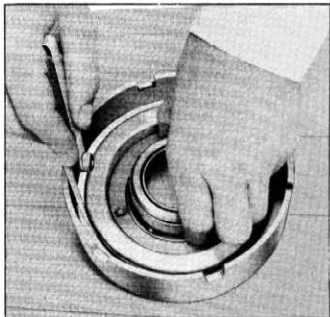

Fig. 93—Checking Seating of Clutch Piston Outer Seal
- Place small amount of transmission oil on inner diameter of clutch drum and onto seals. Then carefully install piston into clutch drum using a piece of feeler stock to insure seating of outer ring seal in clutch drum (fig. 93).